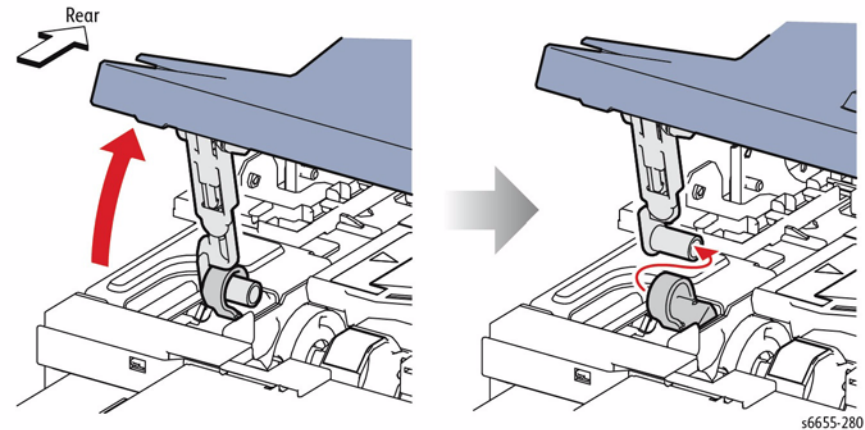

Figure 1 Disconnect the Transfer 2 Link from the Transfer Coupling Link
6. Open the Top Cover Assembly and refer to Figure 1 to locate and disconnect the Top Cover's Transfer 2 Link from the Transfer Coupling Link.